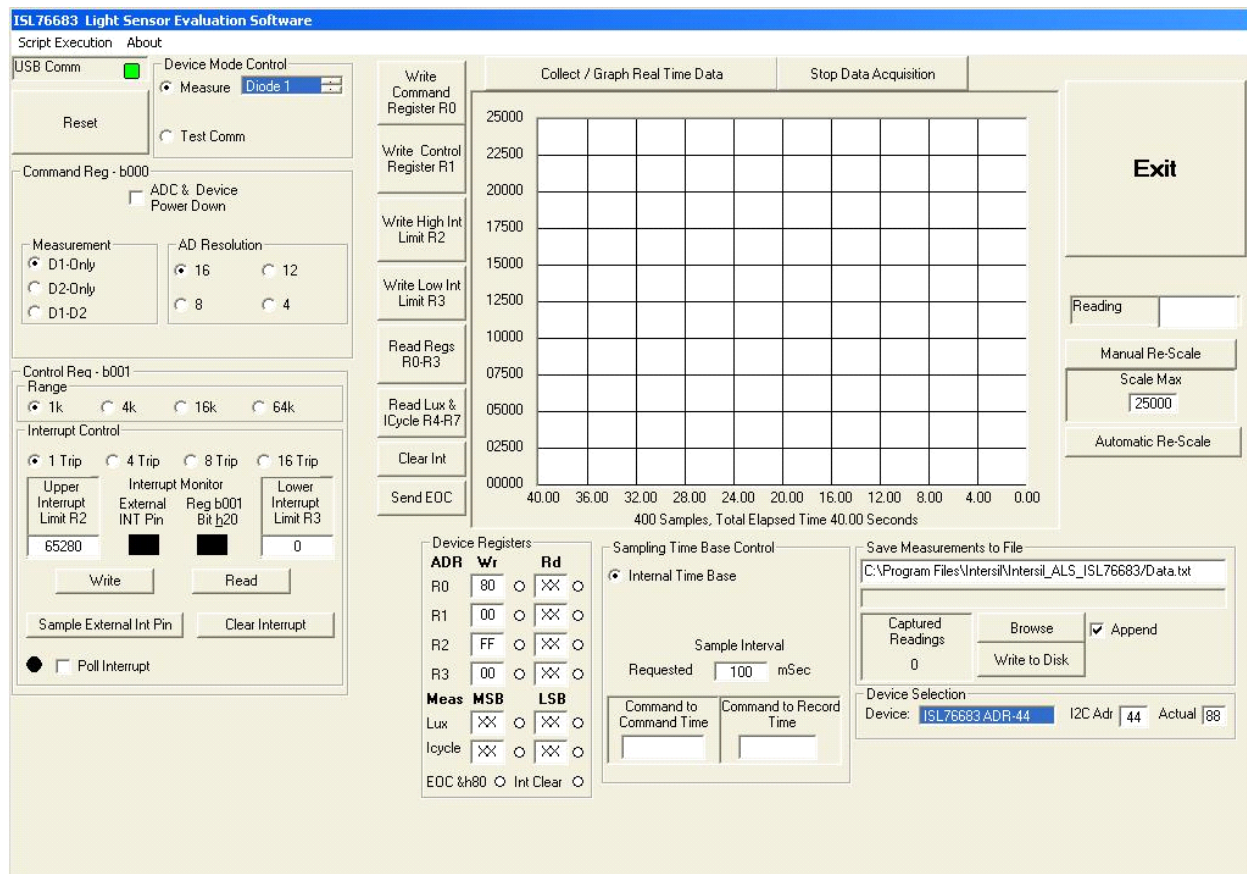

FIGURE 4. ISL76683 LIGHT SENSOR EVALUATION SOFTWARE USER INTERFACE
4. The **ISL76683 Light Sensor Evaluation Software** window shown in Figure 4 opens. This window is the main interface for demonstrating the capabilities of ISL76683.